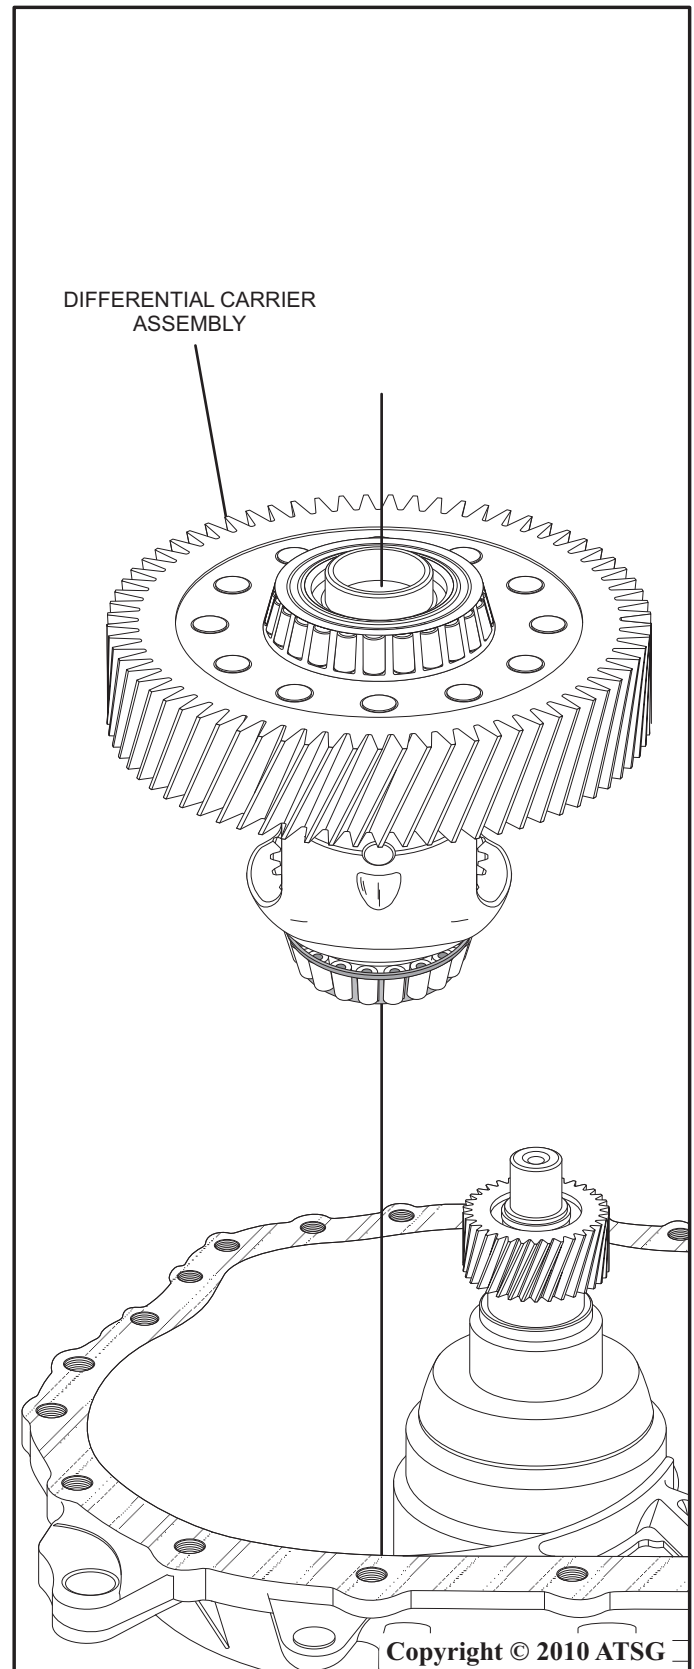

Figure 13
CORRECTION #2: Replace the differential assembly. The ring gear is not sold or serviced separately. Use the disassembly and reassembly procedure and refer to Figure 13 for proper disassembly and reassembly of the Ford CVT transaxle for the differential assembly. Refer to factory manual section 307-01A for proper shim and pre-load procedures for the differential assembly.
24. Remove the differential carrier assembly by lifting straight up as shown in figure 13.